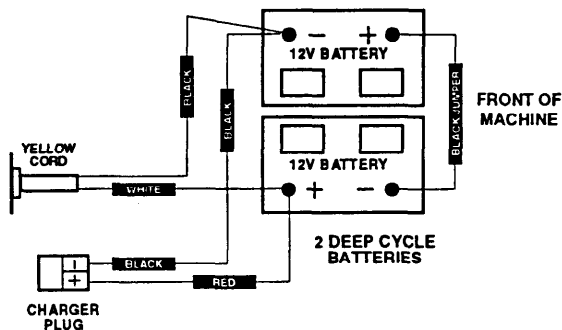

FIG. 1
2. Carefully set and position batteries into compartment as shown. (FIGURE 1)
Use FIGURE 1 for assistance.